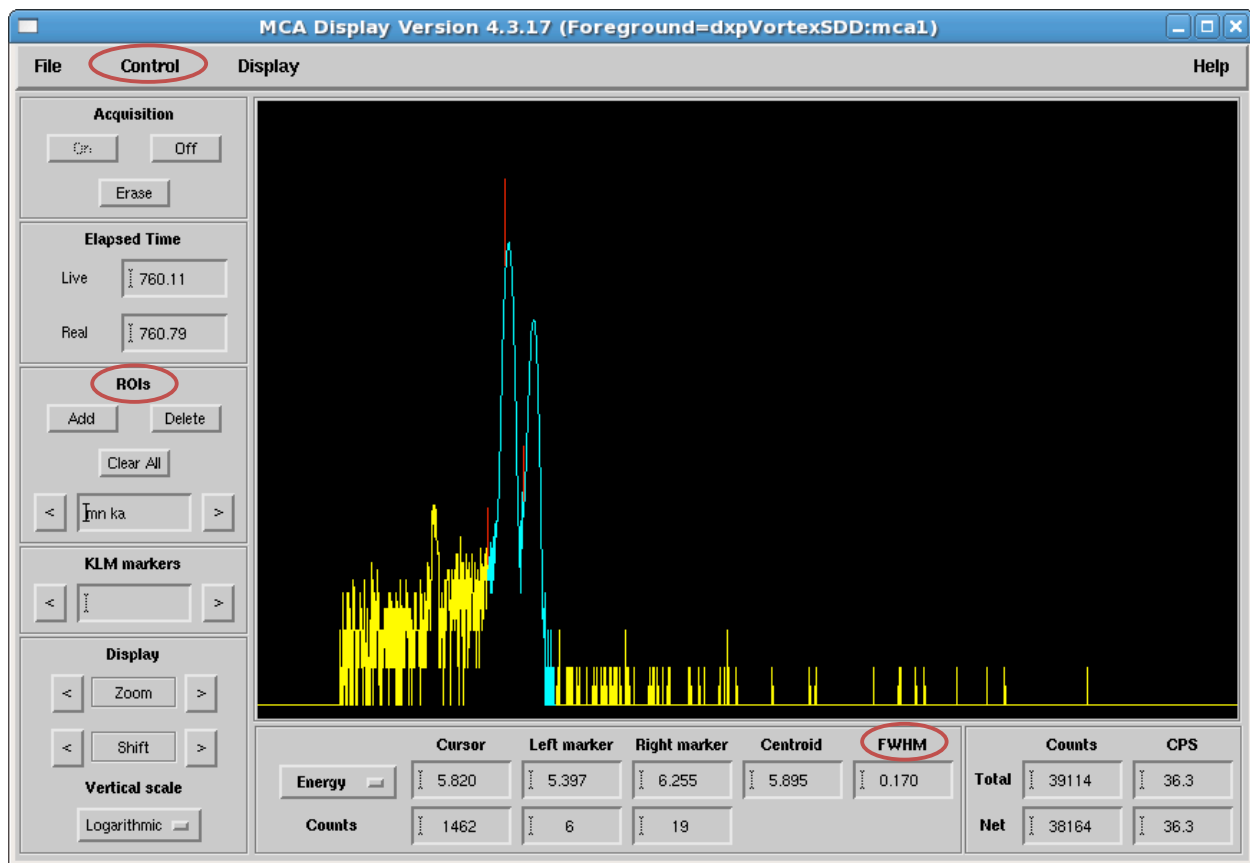

Figure 8: MCA display screen
IDL MCA can be used for energy calibration (optional, Figure 8).
4. Under the **Control** menu (Figure 8), select **Calibrate Energy**.
3. Note that the vortex output consists of positive pulses; the input polarity of the shaping amplifier needs to be set to positive. This can be done by positioning jumpers inside the shaping amplifier, as shown in Figure 8 (for assistance, please contact Detector Pool staff at 2-9490).